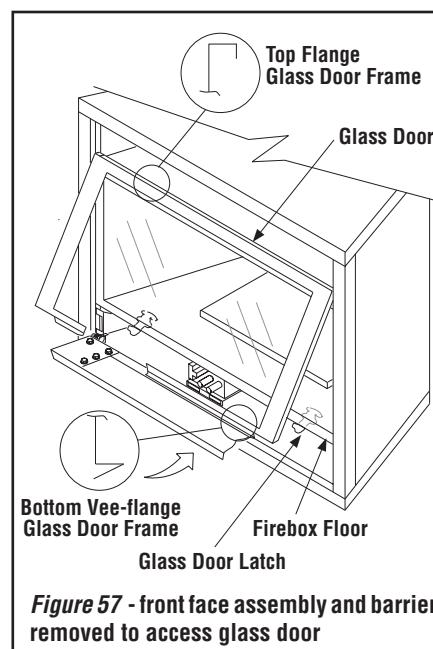

Figure 57 - front face assembly and barrier removed to access glass door
Removing Glass Enclosure Panel (see Figure 57)
Locate the two (2) glass door spring latches at the top of the control compartment (see Figure 57). Pull out each spring latch until it disengages from the door frame bottom vee-flange.
Installing Glass Enclosure Panel (see Figure 57)
Position the door in front of the firebox opening with the bottom of the door held away from the fireplace (Figure 57). Hook the top flange of the door frame over the top of the firebox frame.